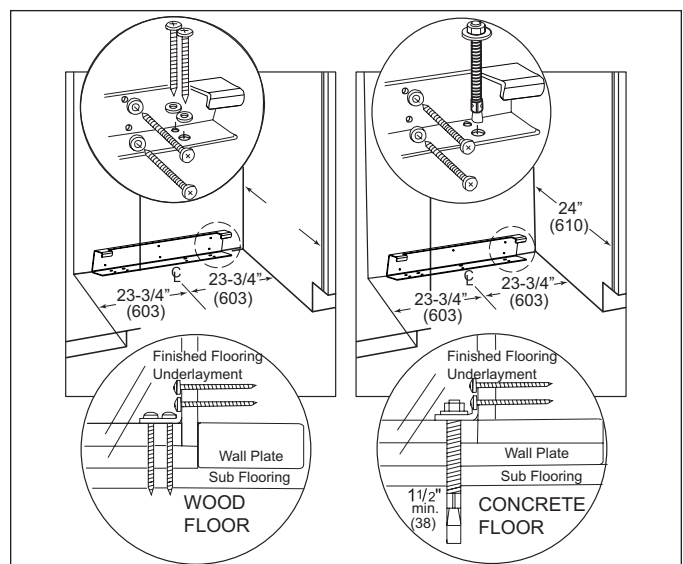

Figure 2-10. Anti-Tip Mounting
1. Install anti-tip bracket exactly 26" (660 mm) from front face frame, centered in the rough opening. (See Figure 2-10)